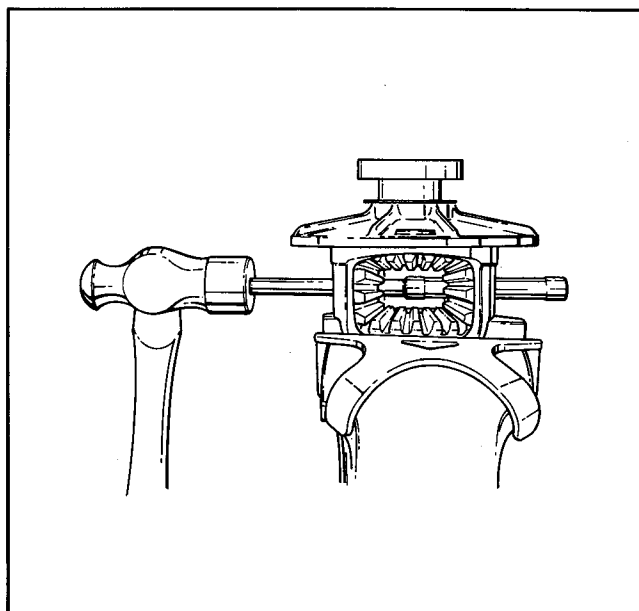

Figure 4-12 – Remove Pinion Mate Shaft
- n. Drive idler gear pinion mate shaft (14) from case with long brass drift. See Figure 4-12.
- o. Remove pinion mate gears (15) and thrust washers (16) (one on back of each gear) by rotating both gears 90° to opening in differential case.
- p. Remove differential side gears (17) and thrust washers (18) (one on back of each gear) through opening in differential case.